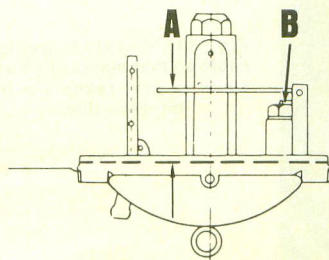

Fig. Y11-2—Float level (A) should be measured from gasket surface with gasket removed. Adjust level by bending tang (B).
**CARBURETOR.** Model DS7 is equipped with two Mikuni VM26SC carburetors. Idle air screw setting is 1 turn open. All other models are equipped with two Mikuni VM28SC carburetors. Idle air screw setting is  $1\frac{1}{4}$  turns open on models R5C and RD250A;  $1\frac{1}{2}$  turns open on model RD250;  $1\frac{3}{4}$  turns open on models R5, R5B, RD350 RD350A. Float level for all models should be 15MM (A—Fig. Y11-2). Refer to following tables for carburetor specifications: